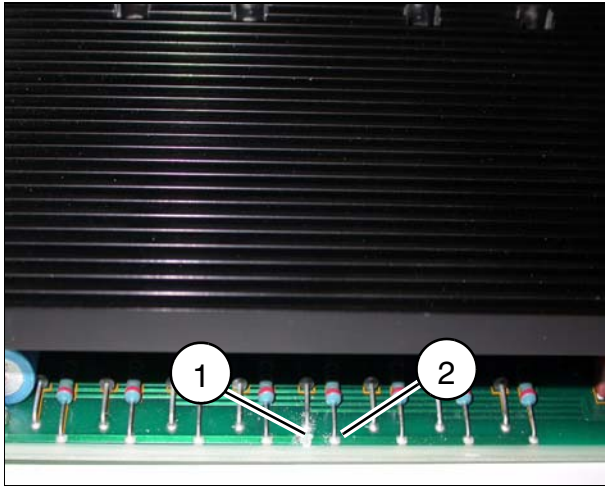
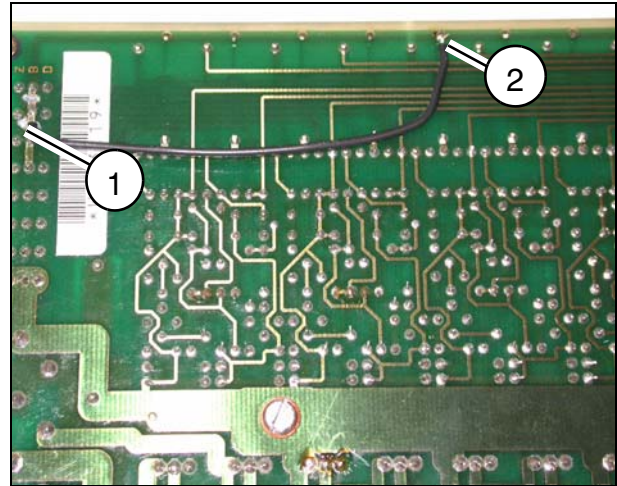

Fig. 3
Fig. 4
- Separate the connection from socket connector X1 b2 to b4 (1/Fig. 4) on the soldering side of the board and check the interruption with an ohmmeter.
- Interrupt connection between 4th and 5th resistor (1/Fig. 3) and check the interruption with an ohmmeter.
- Solder interconnecting wire 0.5 on board from socket connector X1 b4 (1/Fig. 4) to the 5th resistor (2/Fig. 3 and 2/Fig. 4) viewed from the socket connector.